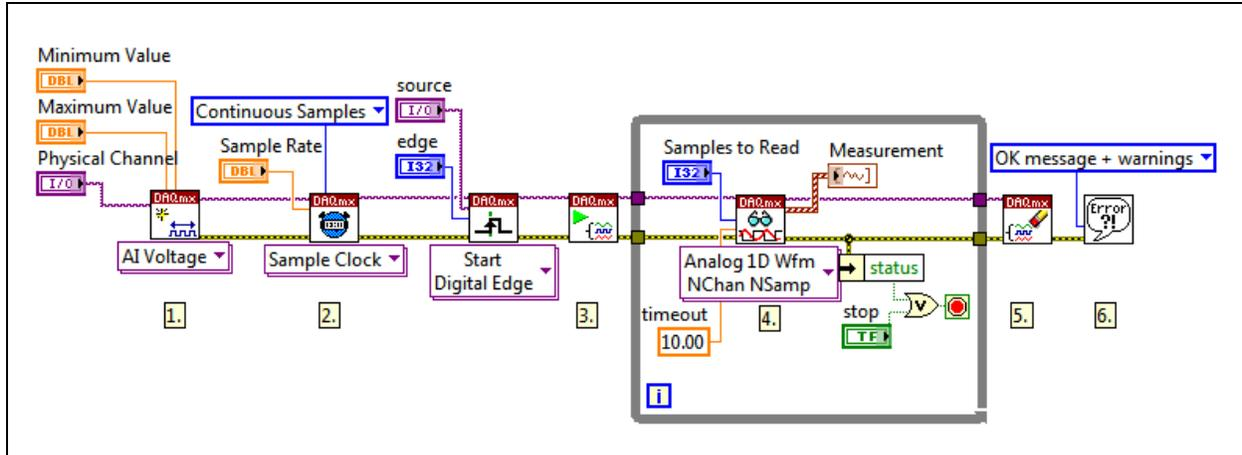

Figure 1. Trigger AI Acquisition VI Block Diagram
2. Modify the block diagram as shown in Figure 1 to add triggering functionality.
- Connect the wires as shown in Figure 1.